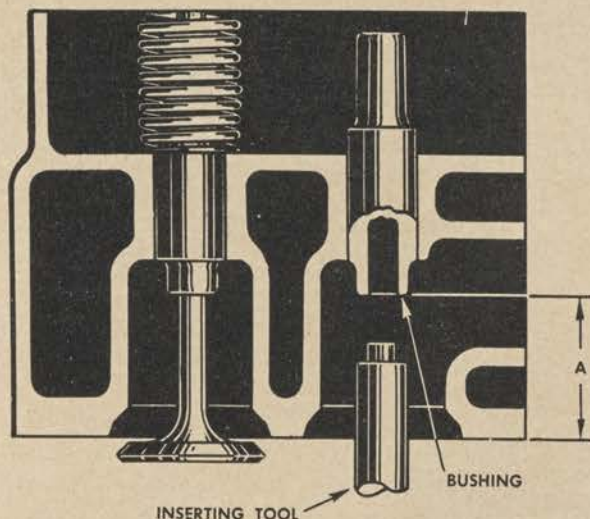

Figure 208. Installing valve stem bushing.
below the top of the cylinder block or the distance (A). (See fig. 208.) If a longer exhaust valve bushing is used, press it in until the bottom of the bushing is even with the bottom of the inlet valve bushing.